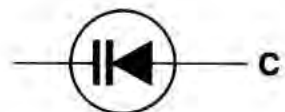

Figure 3-12
5. Identify the schematic symbols shown in Figure 3-12.
5. The schematic symbols shown in Figure 3-12 are: